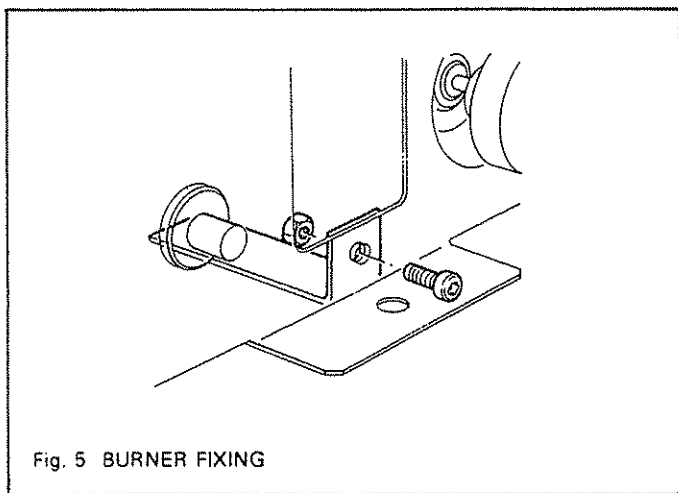

Fig. 5 BURNER FIXING
- 6.1 Detach the burner and control unit by removing the screw and nut securing the burner front plate to the bracket at the bottom of the convection box (see fig. 5). Put the burner unit, screw and nut in a safe place.